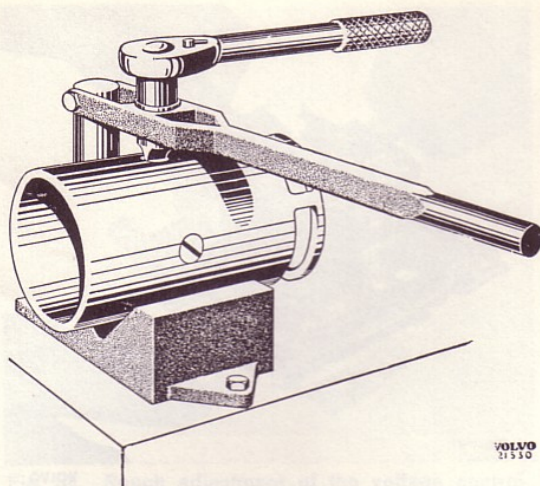

Fig. 33. Removing the field winding
2. Place the dynamo housing in a V-block as shown in Fig. 33. Press down at the same time while turning the screwdriver. As a rule, the screws are tightened very hard. Therefore ensure that the screwdriver head fits well into the slot in the screw and is sufficiently wide.